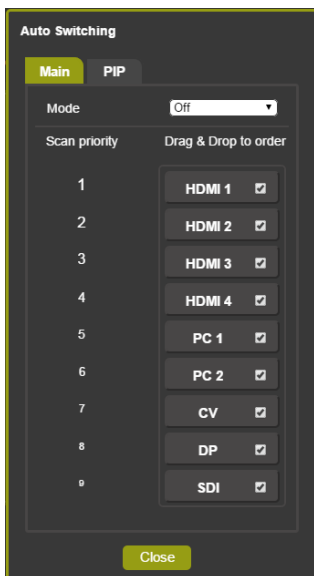

Figure 49: The Routing & Scaling Page – Auto Switching Window (Main Tab)
Click the Auto Switching button to open the Auto Switching window (see Figure 49). The Auto Switching window lets you set the Main and PiP scanning mode separately to:
When Scan mode is activated, the system scans the inputs from the highest to the lowest priority in search of a valid input signal for each the Main and PiP windows. The priority is ordered from the lowest input number (9) to the highest (1). For example, if PC 1 and HDMI 2 have a valid signal and auto switching is enabled, the **VP-774A** will scan through the inputs and select the HDMI 2 which is higher in the priority list (see Figure 49). Once the signal is no longer valid on HDMI 2, the **VP-774A** will scan for the next highest-priority valid signal.